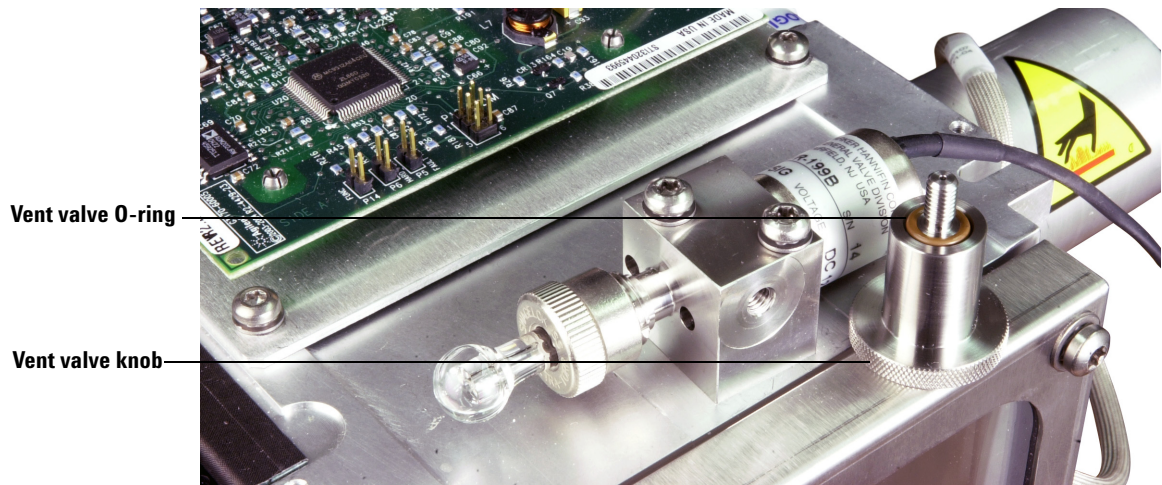

Figure 10 Vent valve O-ring
- 2 Completely remove the vent valve knob (Figure 10).